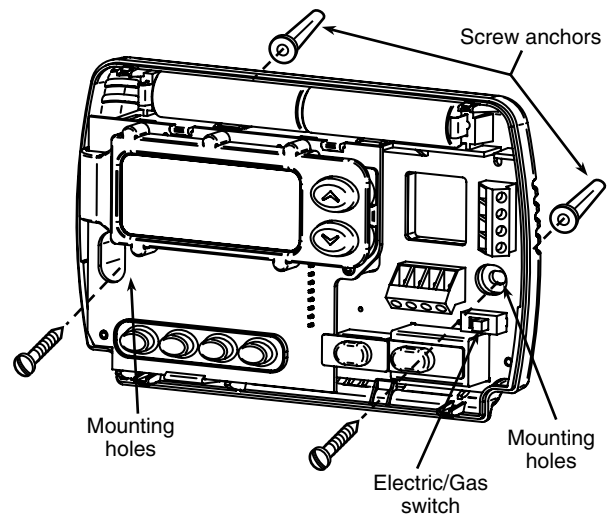

Figure 1. Thermostat Base
This thermostat is configured from the factory to operate a heat/cool, fossil fuel (gas, oil, etc.), forced air system. It is configured correctly for any system that DOES NOT require the thermostat to energize the fan on a call for heat. If your system is an electric heat or heat-pump system that REQUIRES the thermostat to turn on the fan on a call for heat, locate the **ELECTRIC/GAS switch** on the back of the thermostat (see fig. 1) and switch it to the **ELECTRIC** position. This will allow the thermostat to energize the fan immediately on a call for heat. If you are unsure if the heating/cooling system requires the thermostat to control the fan, contact a qualified heating and air conditioning service person.
5. Fasten base loosely to wall, as shown in fig. 1, using two mounting screws. Place a level against bottom of base, adjust until level, and then tighten screws. (Leveling is for appearance only and will not affect thermostat operation.) If you are using existing mounting holes, or if holes drilled are too large and do not allow you to tighten base snugly, use plastic screw anchors to secure subbase.
If "BATT" is displayed, the batteries are low and should be replaced. For best results, replace all batteries with new premium brand batteries such as Duracell® or Energizer®. To replace batteries, install the batteries along the top of the base (see Fig. 1). The batteries must be installed with the positive (+) end to the left.